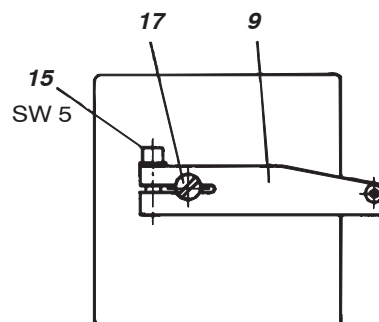

Fig. 22: Attaching the feedback lever to the positioner
- Fasten the feedback lever **9** for the rotary actuator onto the shaft of the positioner **17** as shown in Fig. 22.